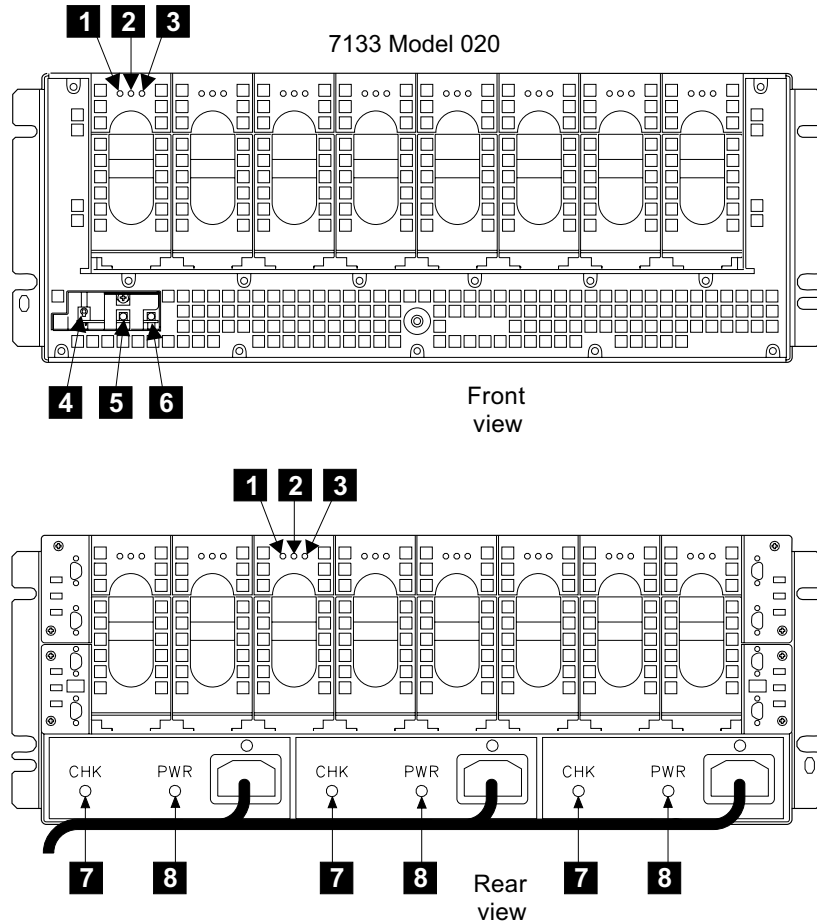

Figure 106. SSA DASD Drawer Indicators (t007209p)
- ___ 6. **Model 020 drawers**, check the indicators on all Model 020 drawers in the 2105 Model 100: Refer to Figure 106 on page 122.